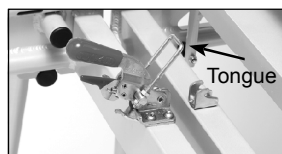

Figure 16
4. When the heights of the tub base and the rolling base are equal, move the rolling base as close as possible to the tub base. Place the tongue of the manual locking latch over the receiver on the tub base (Fig. 16).